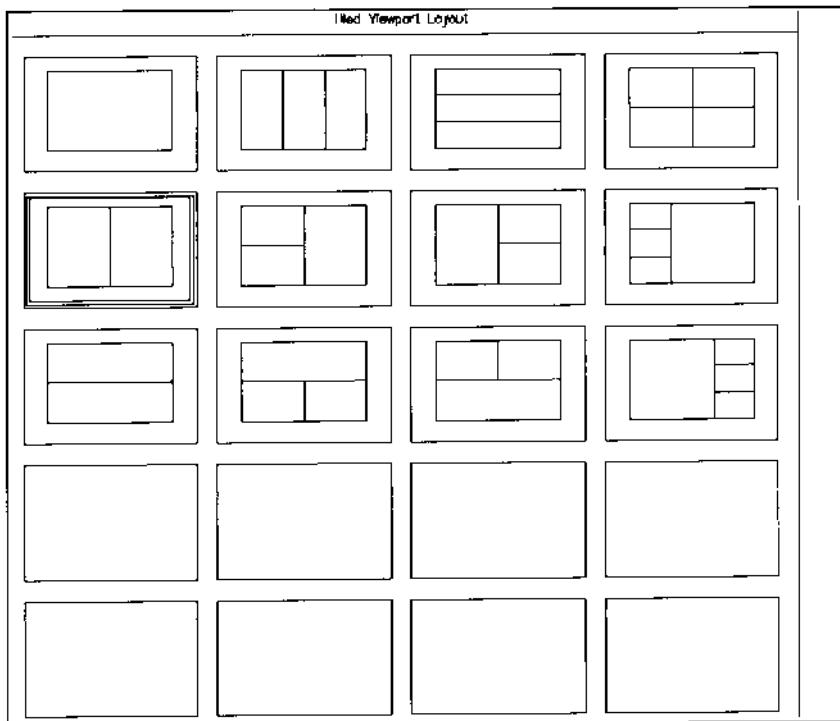

Figure 27.
3. Select Tiled Vports under Layout from the Display pull-down menu to open the Tiled Vports Layout icon menu as shown in Figure 27.